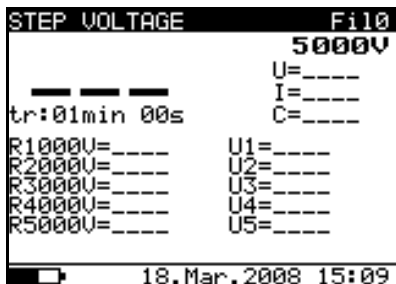
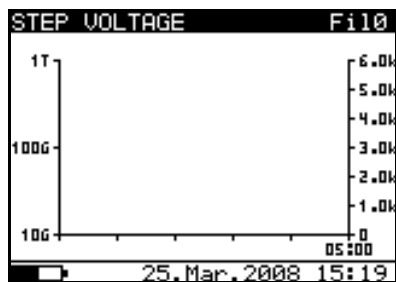

Fig. 38: Initial numerical screen
Fig. 40: Initial graphical screen
2. Select with arrow keys \blacktriangledown or \blacktriangle the item "STEP VOLTAGE" on main menu and confirm with **SELECT** key. The screen of Fig. 38 is shown by the meter. In case of activation of Graphic R(t) option press arrow keys \blacktriangledown or \blacktriangle to select the graphical screen of Fig. 40